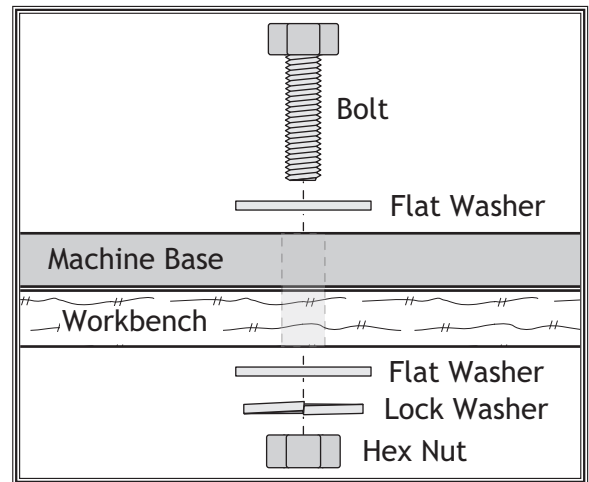

Figure 4. Example of through-mount setup.
- "Through Mount" (see **Figure 4**). Holes are drilled through workbench and hex bolts, washers, and hex nuts are used to secure press.